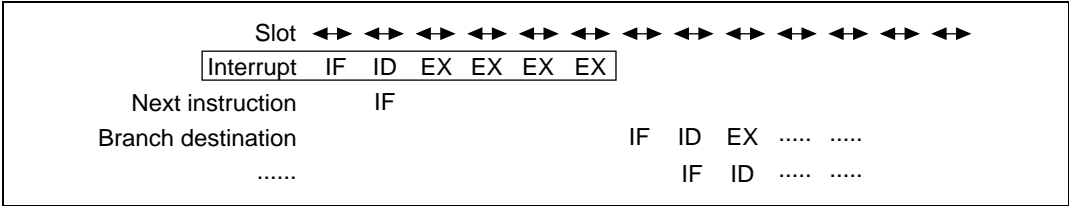

Figure 10.64 Interrupt Exception Processing Pipeline
The interrupt is received during the ID stage of the instruction and everything after the ID stage is replaced by the interrupt exception processing sequence. The pipeline has six stages: IF, ID, EX, EX, EX, and EX (figure 10.64). Interrupt exception processing is not a delayed branch. In interrupt exception processing, an overrun fetch (IF) occurs. In branch destination instructions, the IF starts from the slot following the final EX in the interrupt exception processing.